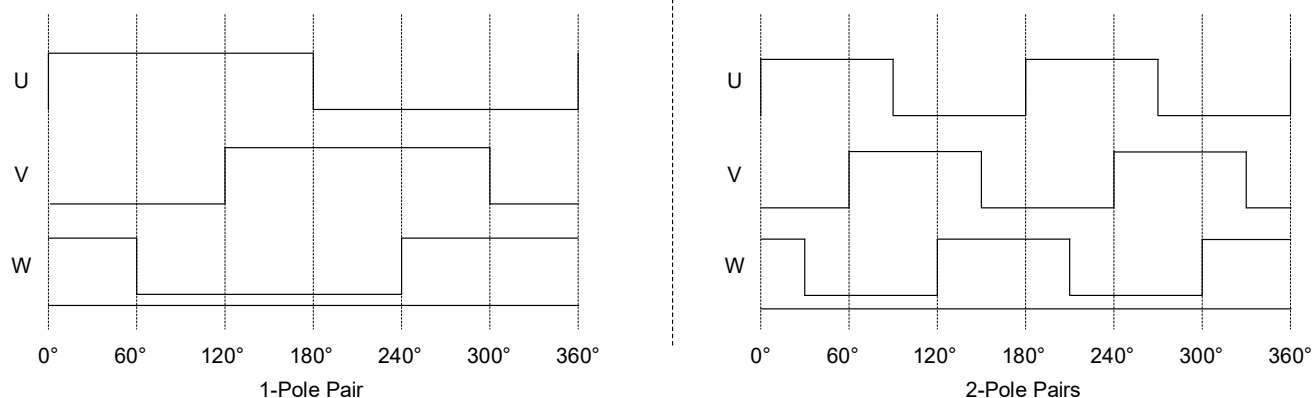
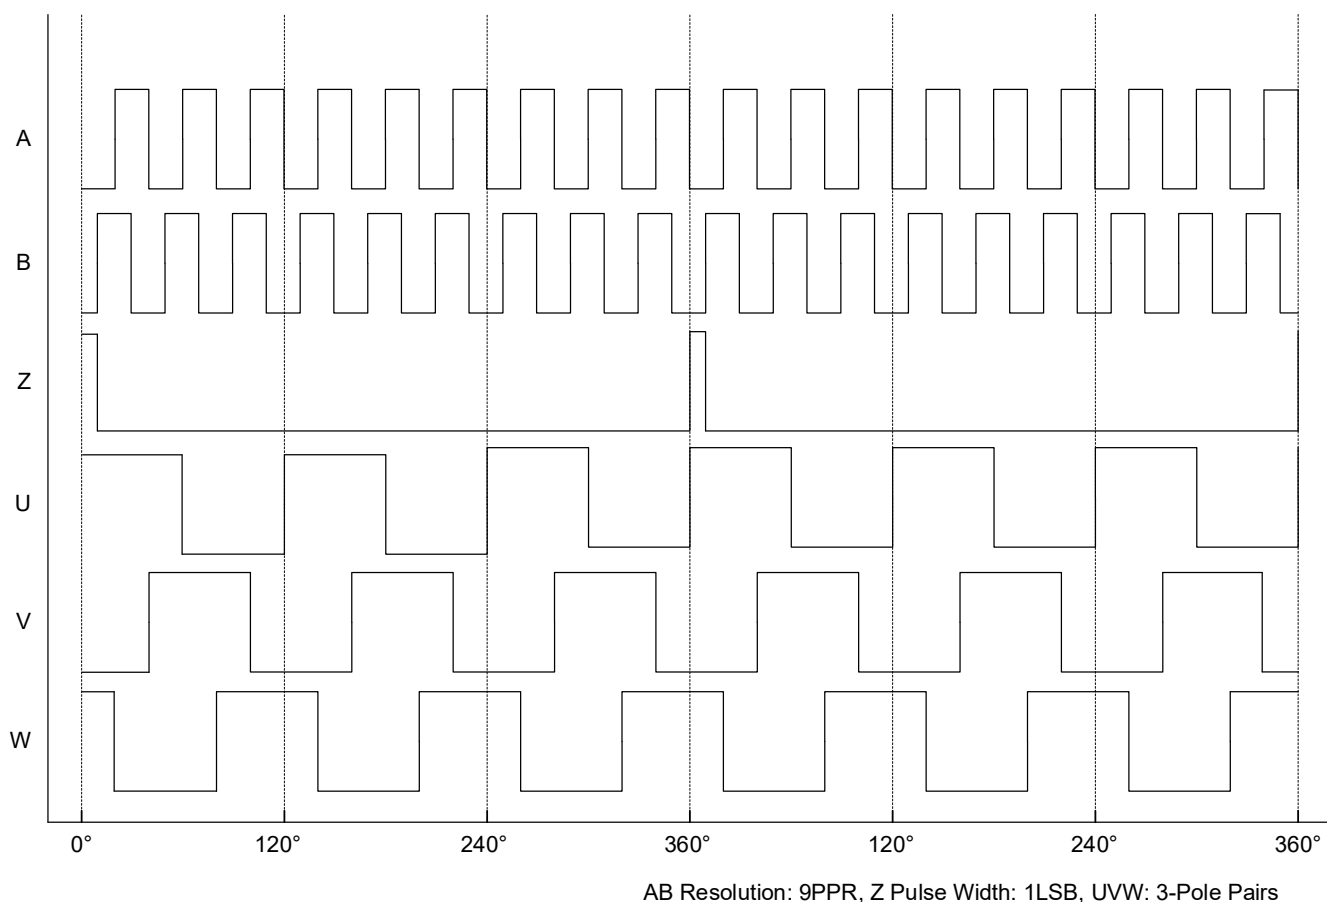

Figure 12. UVW Waveform for 1 and 2 Pole Pairs in CW Mode with Clockwise Magnet Rotation
Figure 13. ABZ and UVW Output Waveform in CW Mode with Clockwise Magnet Rotation
The electrical phases U, V, and W are separated by 120 electrical degrees. The corresponding mechanical angle is determined by the motor's pole pair count. Users can configure the UVW pole pairs per revolution (PPR_UVW) through register UVW_RES[3:0] to meet application requirements. Figure 12 illustrates the UVW output signals for 1 pole pair and 2 pole pairs during clockwise (CW) rotation (DIRECTION register = 0) of the magnet. Figure 13 shows the ABZ and UVW output waveforms during clockwise rotation (CW mode, DIRECTION register = 0) with AB resolution PPR = 9, Z pulse width = 1LSB (Least Significant Bit), and UVW configured for 3 pole pairs.